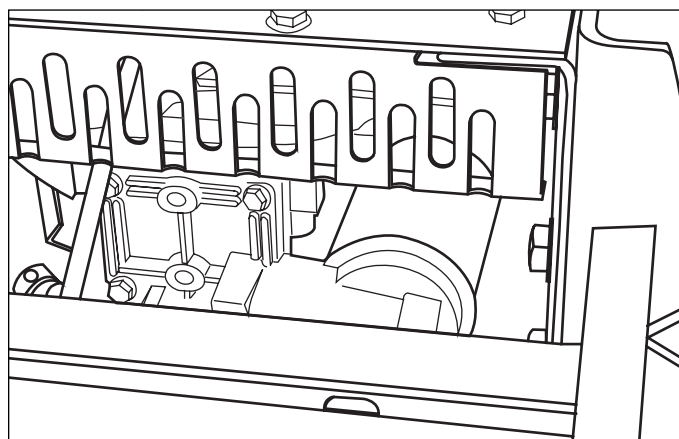

Figure 31. Transmission Oil Filter Location
2. Place a drain pan under each transmission and remove the filters to drain the oil. See Figure 31.